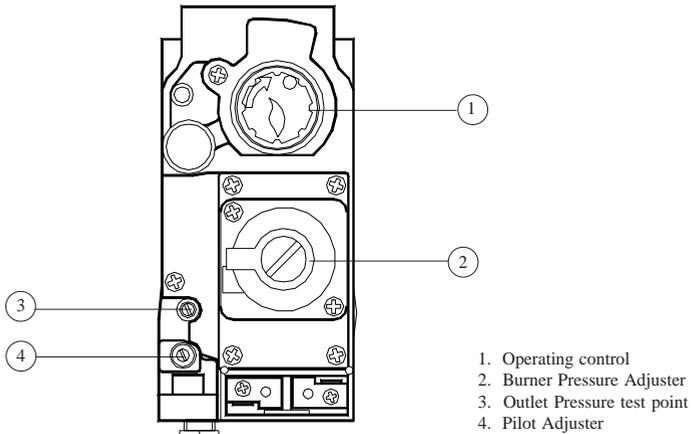

Fig. 4
- 6.3.2 On the Multifunctional control, remove the Outlet Pressure test point cover, and fit a pressure test gauge (refer Fig. 4).
- 6.3.4 Referring to Fig. 4, press and hold the OPERATING CONTROL, and whilst observing the Pilot Burner, repeatedly press the Piezo igniter button until Pilot burner ignites.
- 6.4.1 Referring to Table 4 and Fig. 4 below, ensure that the pressure test gauge indicates the correct burner pressure, resetting if required as follows: